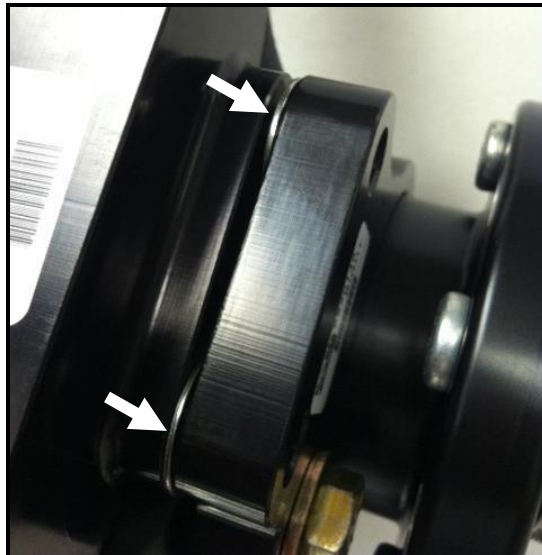

Figure 8: Location of shims
6. Re-shim if necessary. When proper shimming has been achieved, torque the M12-1.75x60 bolts to 85 ft-lbs. Finally, torque the caliper bolts to 75 ft-lbs. See Figure 8 for reference of shimming.